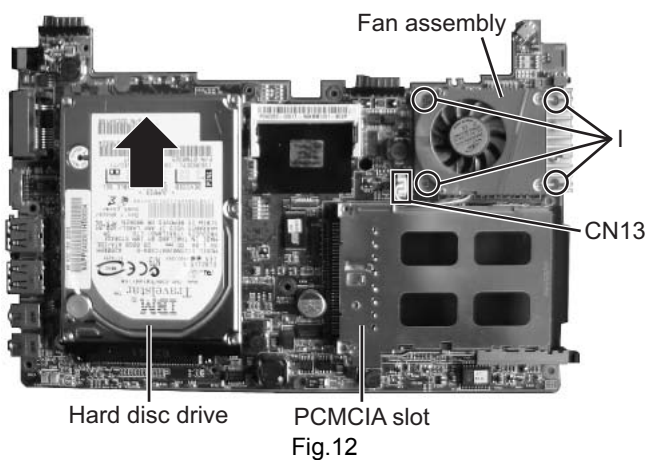

Fig.12
1.1.5 Removing the parts on the mother board (See Figure 12 ~ 15)